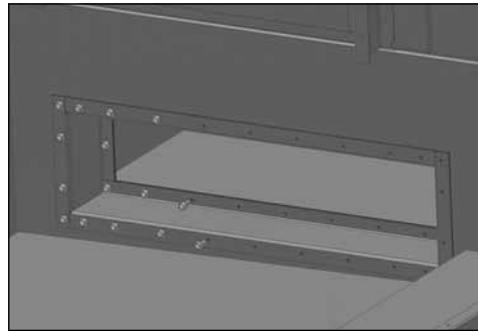

Figure 9
4. Using drift pins to align the bolt holes, place the flume box over the opening in the basin of Cell #1 and fasten into place. Insert the 3/8" self-tapping screws or bolts from the flume box into the basin wall as illustrated in Figure 9 .
8. As illustrated in Figures 9 and 10, insert 3/8" self-tapping screws in each hole from the flume box into the basin wall and tighten.